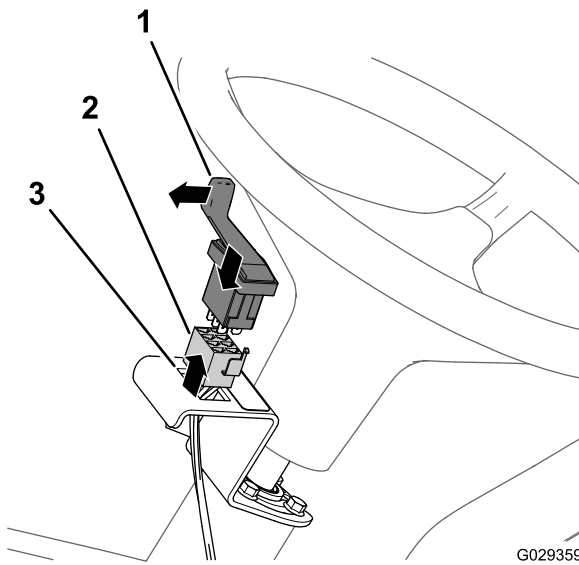

Figure 26
4. Assemble the switch into the bracket and press in the switch until it snaps securely into the opening (Figure 26).